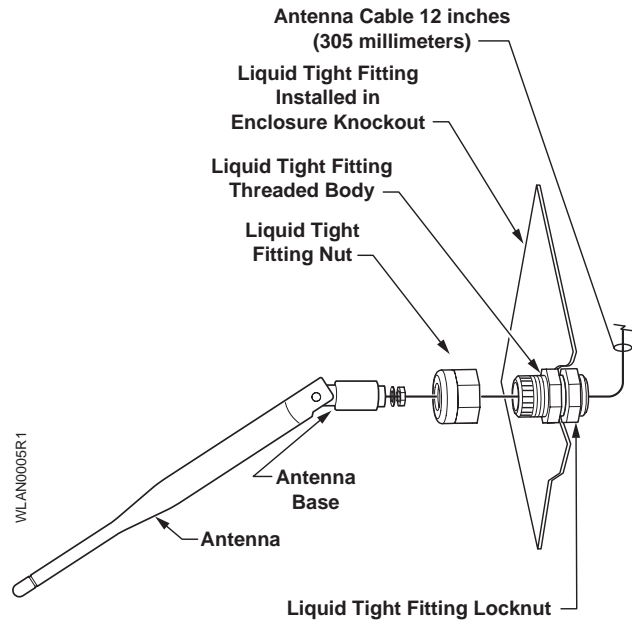

Figure 5. Remote Mount Antenna.
- b. Route the antenna through the body of the liquid tight fitting (Figure 5). Hand-tighten the liquid tight fitting nut to secure the antenna in place.